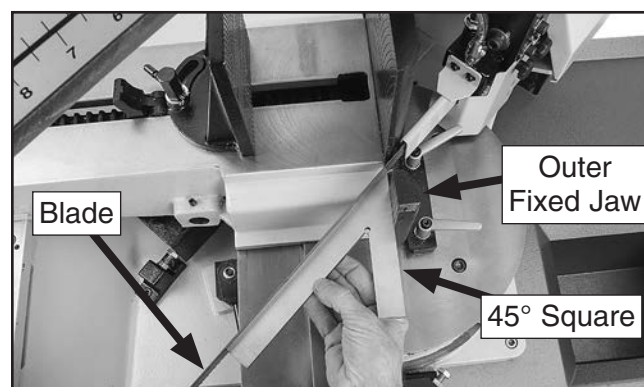

Figure 95. Using 60° square to check 45° stop.
7. DISCONNECT MACHINE FROM POWER and place 45° square between vise jaw and blade, as shown in **Figure 95**. The square should fit snugly against outer fixed jaw and blade.